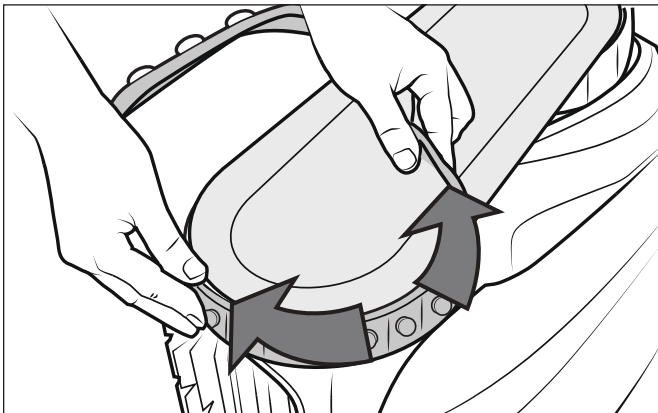

Figure 29. Work the Track On Around the Wheel
5. Work the track onto the front wheel and verify the rib of the track is positioned properly within the groove of the wheel (Figure 29).